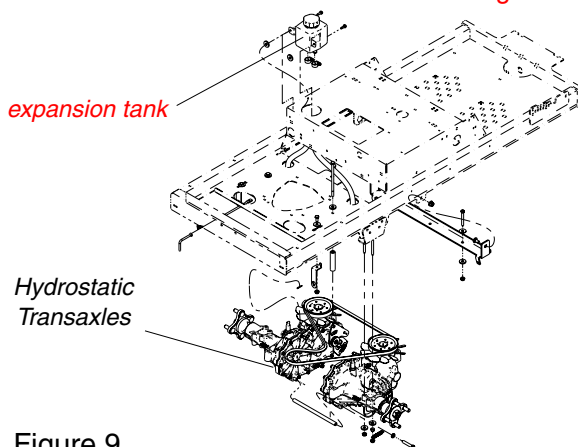

Figure 9
1. Your zero turn riding mower is equipped with dual integrated hydrostatic pumps, motors, and gear reduction transaxles. The fluid level in the expansion tank must be maintained at 1/2" to 1" above the bottom of the tank. **See Figure 9.**